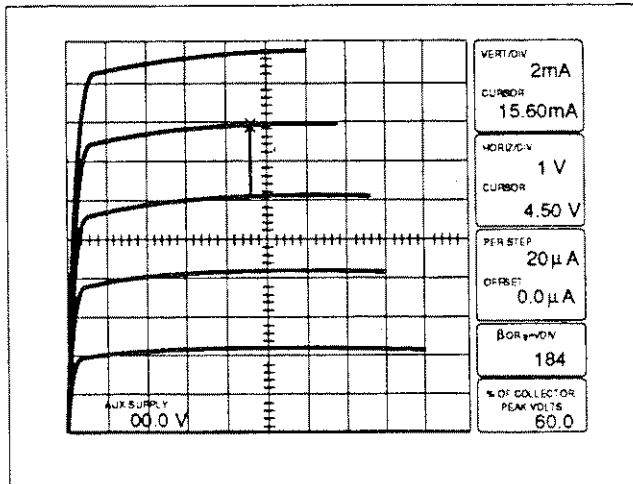

Figure 3-13. Measuring hFE with the Window cursor.
42. Use the up or down Position Control buttons to position the cursor's bright dot on an adjacent characteristic curve (see Figure 3-13). The figure now displayed in the B OR gm/DIV readout is the  $h_{FE}$  of the device under test.